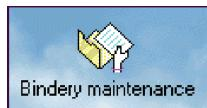

Figure 14-1. Bindery Maintenance button
2. Click the **Bindery Maintenance** button (see Figure 14-1). Or you can select **Check-In > Bindery Maintenance** from the **View** menu on the toolbar.